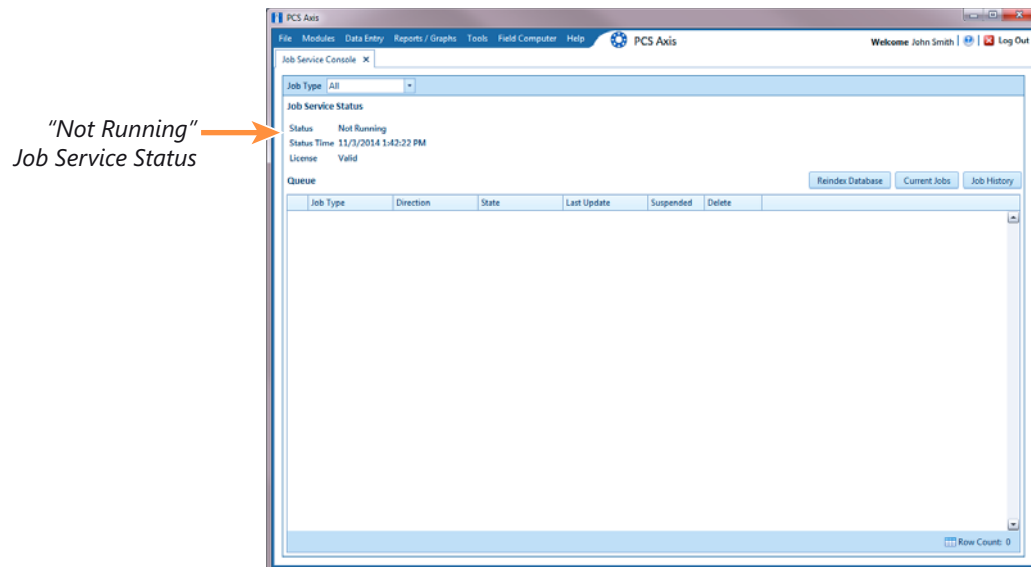

Figure 11-3. Job Service Status
If the message *Not Running* displays in the *Status* field of the Job Service Console as shown in the following figure (Figure 11-3), use the procedure in this section to restart the PCS Axis Job Service. PCS Axis Job Service monitors the job queue, initiating jobs as they become available.
- c In PCS Axis, verify the message *Running* displays in the *Status* field of the Job Service Console (Figure 11-3, page 532).